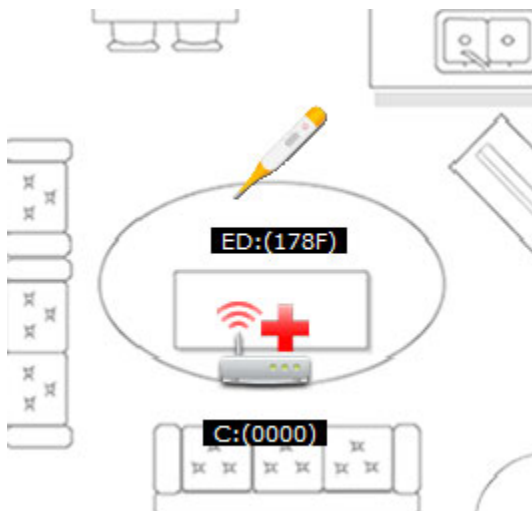

Figure 13. HcThermometer Joined the Network as a New Node
4. Wait until the node is detected in the ZeD GUI where it appears as a new icon as shown in Figure 13.